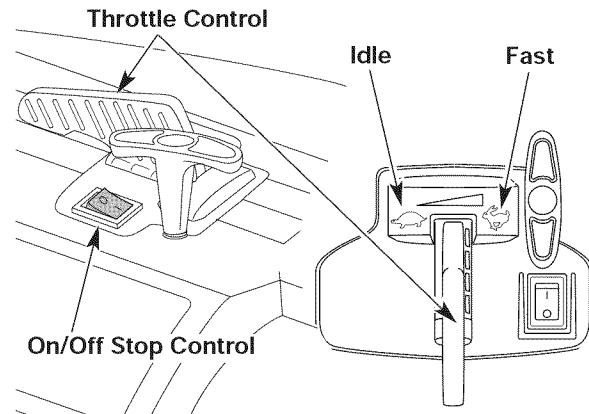

Fig. 10
4. Place the unit in the starting position (Fig. 12 as a blower, Fig. 13 as a vacuum). Move the throttle control to the fast position ( ) (Fig. 10).